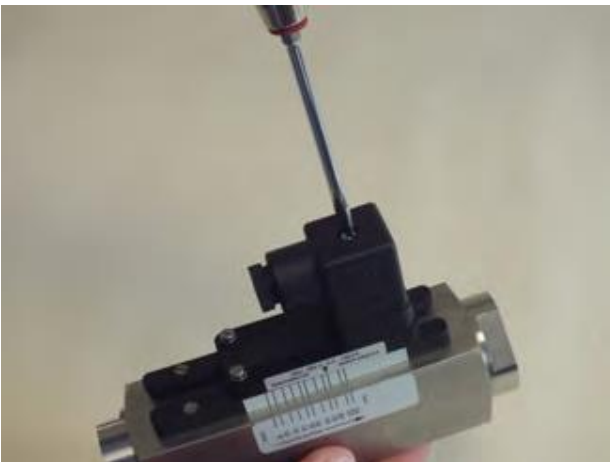

Fig. 20: Detach socket
1. ► Release the fixing screw (Fig. 20) from the socket
9. ► Plug the socket onto the connection plug and tighten the fixing screw (Fig. 20/1).